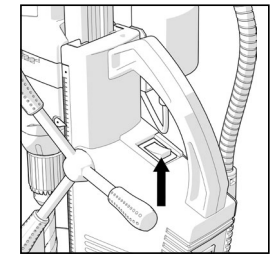

Fig. 5
- Operate the black motor switch located on the top of the machine. (Fig. 5)
- Start the motor by selecting the ON position of the BLACK switch, located on top of the machine. (refer to Fig.5)